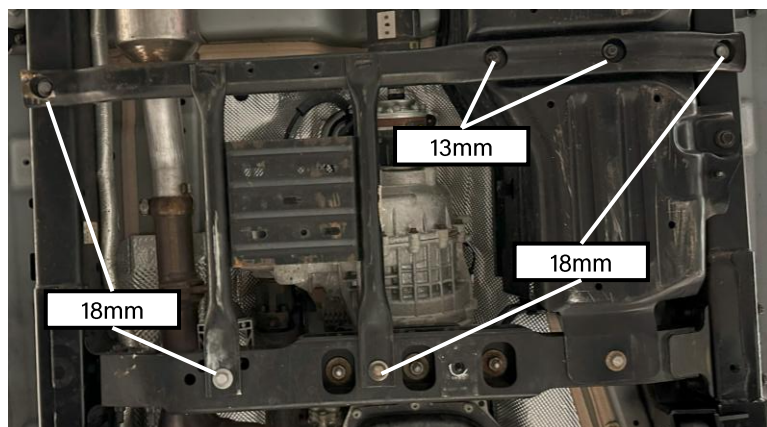

Figure 15: Transfer case skid plate bolts to remove
- ❑ Remove the transfer case skid plate using the socket sizes noted (Figure 15)